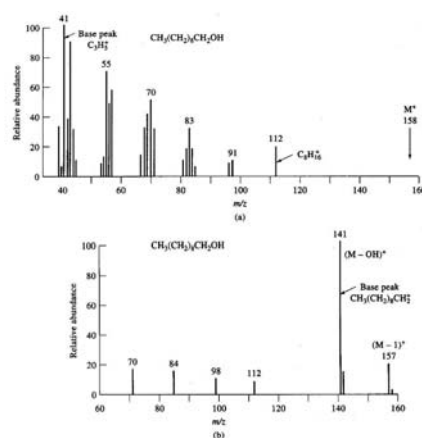

Figure 20-2 Mass spectrum of 1-decanol from (a) a hard source and (b) a soft source.
- Analyte (MH) is ionized by proton transfer or hydride transfer
- Soft Ionization Source! (See Fig 20-2)